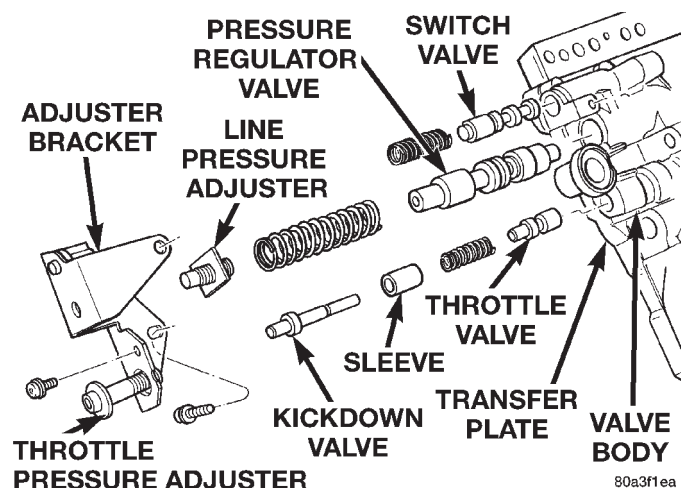

Fig. 40 Adjusting Screw Bracket, Springs, Valve Removal
(1) Remove screws attaching adjusting screw bracket to valve body and transfer plate. Hold bracket firmly against spring force while removing last screw.
(2) Remove adjusting screw bracket, line pressure adjusting screw (Fig. 40).
(3) Remove switch valve and spring, pressure regulator valve and spring, kickdown valve and spring, and throttle valve from valve body (Fig. 40).